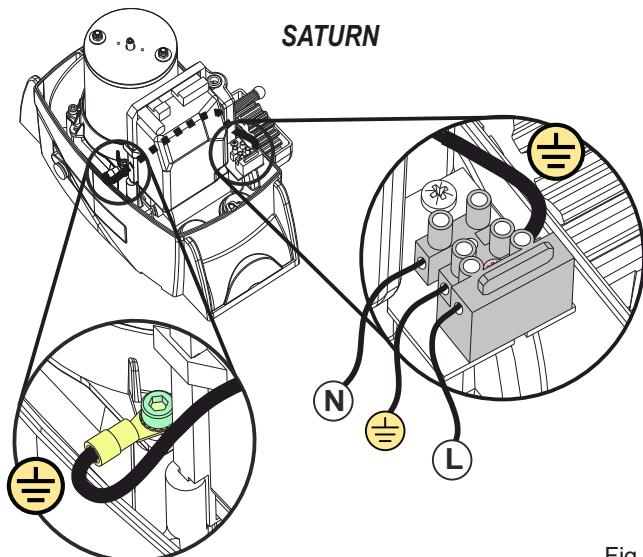
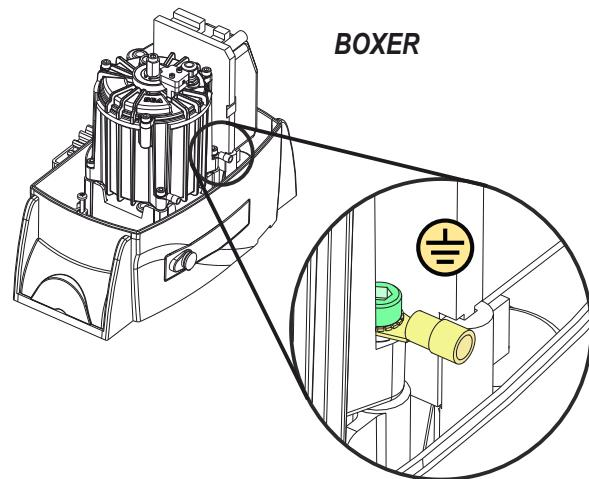

Fig. 26
Fig. 27
12.1. Before connecting the operator, ensure that it is earthed, as shown in Fig. 26 or Fig. 27, depending on the model in use.